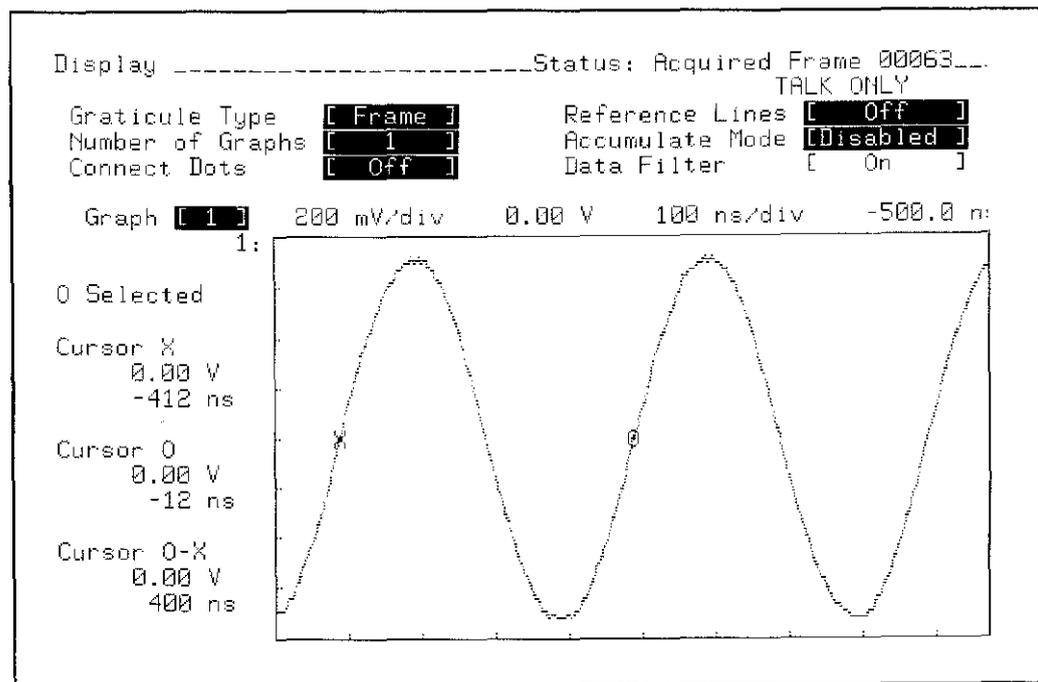

Figure 3-9. DISPLAY Waveform
5. Position the X cursor approximately halfway up the first rising slope, and position the O cursor on the second rising slope such that  $V_{o-x}$  is as small a value as possible. The display should appear similar to figure 3-9.